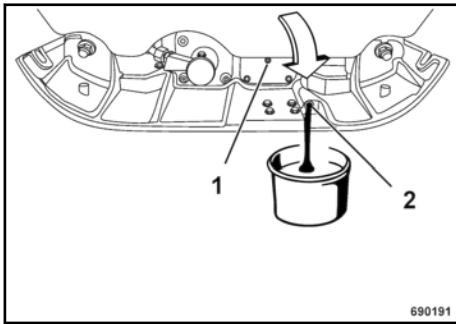

Fig. 53
Unscrew the bleeding screw (1) ↗ Fig. 53.